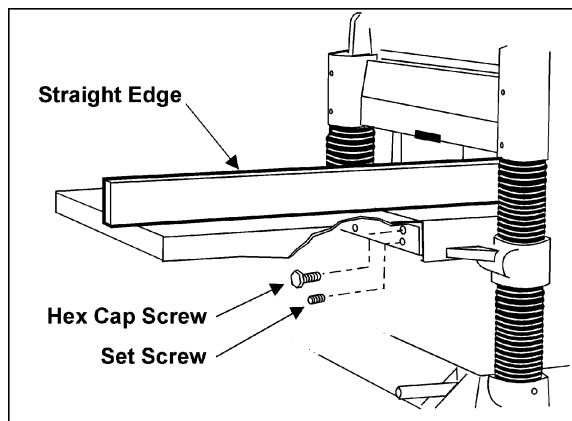

Figure 6
1. Mount the first extension table to the edge of the main table with three M8 x 25 hex cap screws (see Figure 6). Do not fully tighten yet.